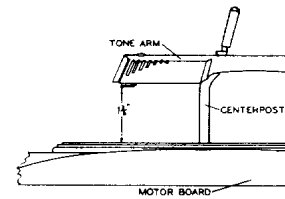

Figure 4
2. Turn the adjustment screw "A" until the sapphire is $1\frac{1}{8}$ inches above the turntable. This adjustment will permit the pickup to land and play one record placed on the turntable. At the same time it prevents the tone arm from touching the record resting on the centerpost while the mechanism is going through cycle. (If this height cannot be reached by the adjustment screw, take up on the cotter pin.) (Figures 4 and 5.)